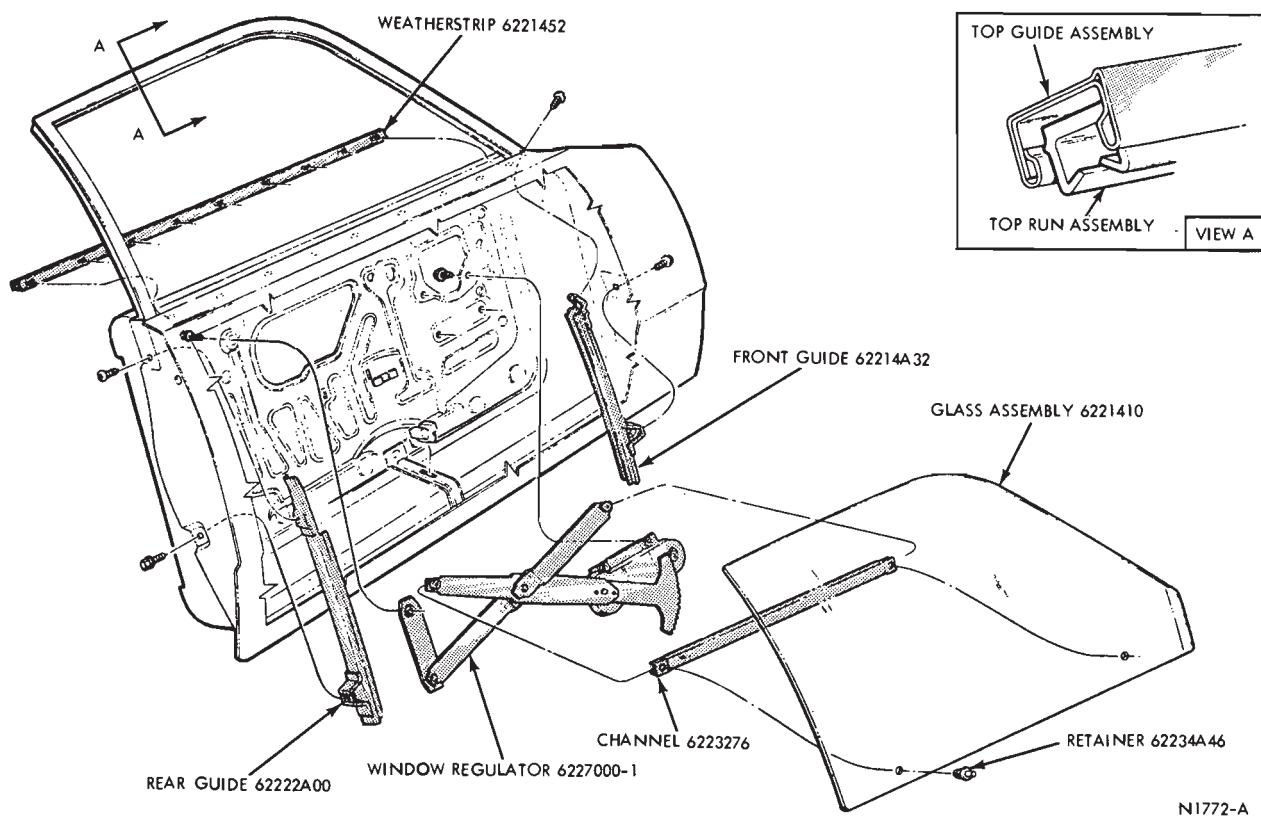

FIG. 19—Door Window Glass—Maverick
4. Place the glass and channel on a bench and remove the nylon retainers (Fig. 19) which attach the glass to the channel and remove the glass.
2. Insert the glass and channel assembly into the door and connect the regulator arms rollers to the channel (Fig. 19).